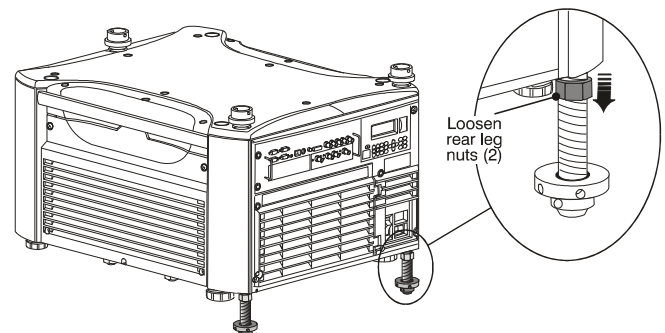

**Figure 2-12 Extend 3 Stacking Legs (UPRIGHT STACK SHOWN)**
Extend the stacking legs (3) by turning them so that at least 1 inch of thread is visible on each. This clearance accommodates the up-or-down movement for aligning the images from the stacked projectors. Ensure that you extend all 3 legs equally (see Figure 2-12) so they are level.
**IMPORTANT!** Ensure the stacking legs are extended at least 1 inch and are slightly loosened. Refer to Figure 2-12.